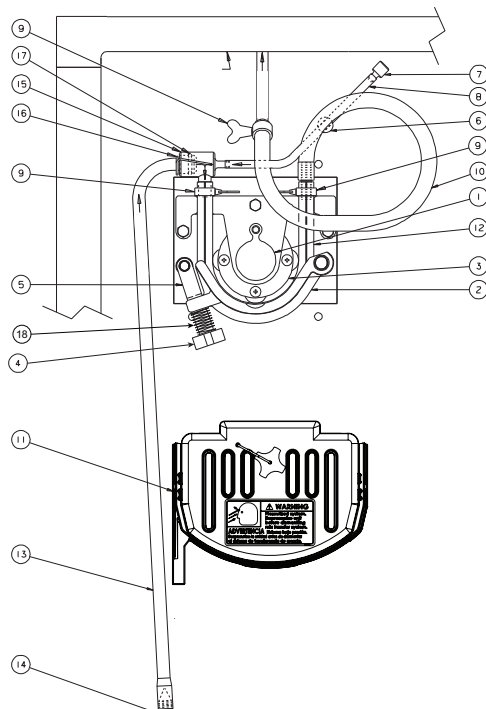

Figure 9-1
3. In the cabinet below (see figure 9-1).